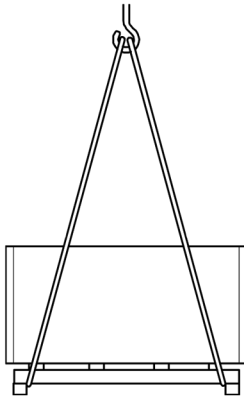

Fig. 16: Attaching the hoist
1. ➤ Attach ropes, straps or multi-point suspension gear in accordance with Fig. 16 to the pallet and secure the pallet to prevent slippage.